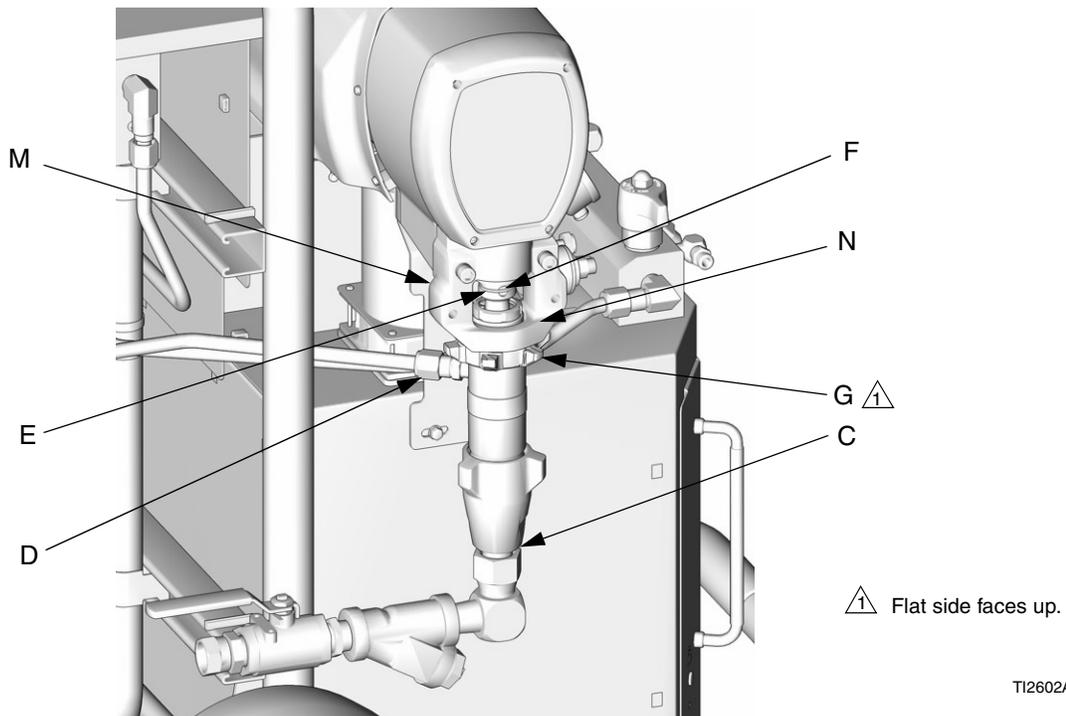

FIG. 2. Reconnect Pump (Pump A Shown)
- 12.** Torque packing nut (19) to 90-110 in-lb (10-12 N•m).
- d.** Ensure locknut (G) is screwed on pump with flat side up. Screw pump into bearing housing (M) until pin holes align. Push pin (F) in. Pull retaining spring (E) down. See FIG. 2.
- e.** Continue screwing pump into housing until fluid outlet (D) is aligned with steel tube and top threads are +/- 1/16 in. (2 mm) of bearing face (N). See FIG. 2.
- f.** Tighten locknut (G) by hitting firmly with a non-sparking hammer. See FIG. 2.
- g.** Reconnect fluid inlet (C) and outlet (D).